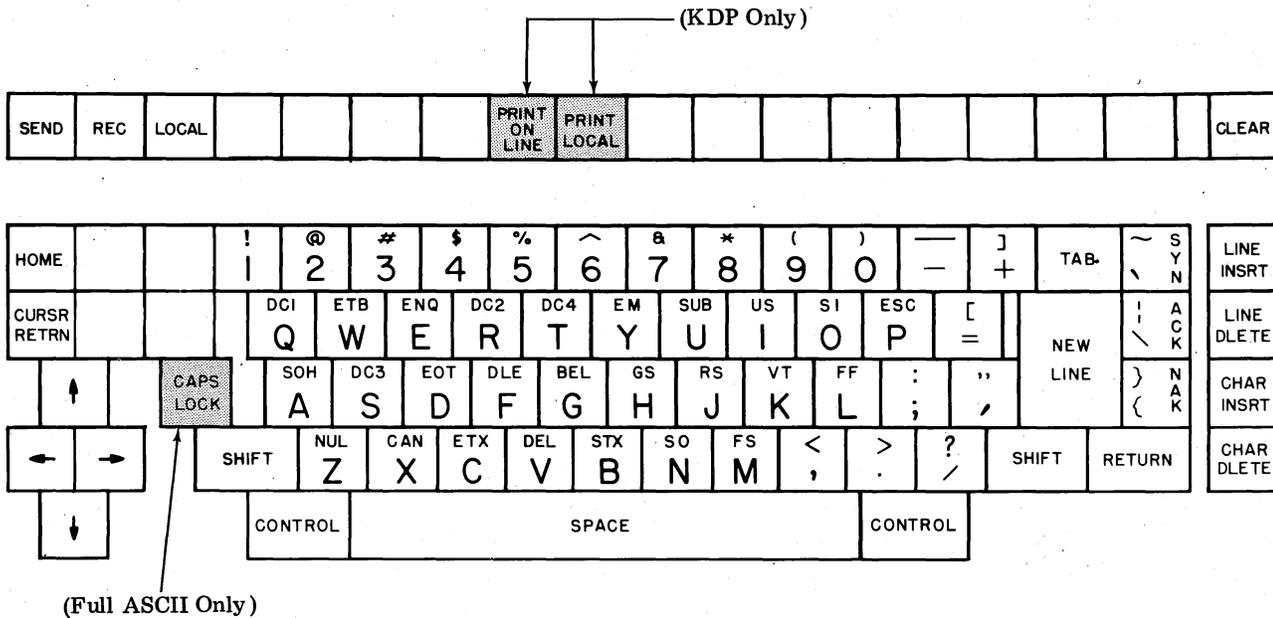

Figure 12 - Key Layout of Basic KD or KDP Operator Console
2.34 Figure 12 shows the key layout on the basic operator console. The labeled keys represent the basic key complement. The PRINT ON LINE and PRINT LOCAL keys (shaded in Figure 12) are present only in the KDP. The CAPS LOCK key (shaded) is present